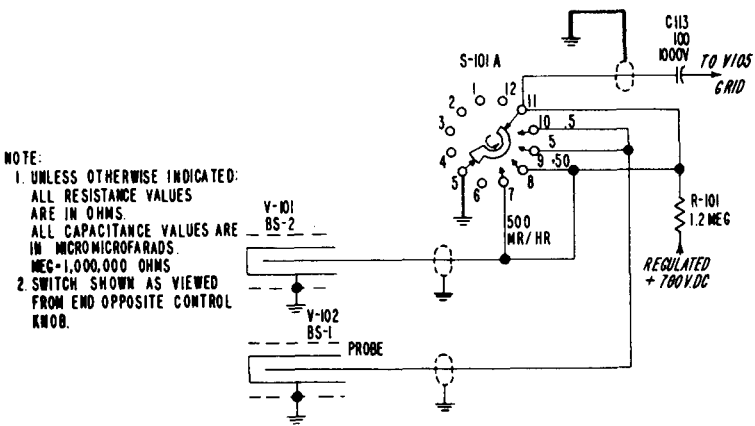

Figure 2-3. **Detector** Circuit
a. DETECTOR CIRCUIT. (See figure 2-3.)—The detector circuit consists of G-M tubes **V101** and **V102**, anode load resistor **R101**, coupling capacitors C1, C2, and section **S101A** of range switch **S101**.